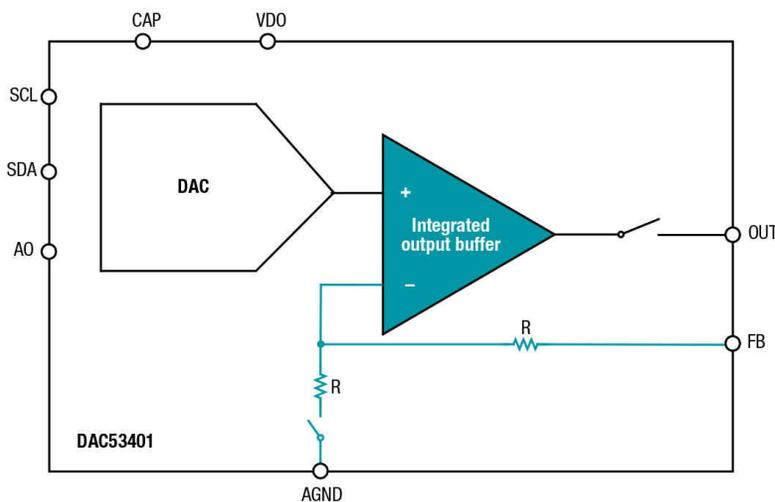

Figure 5. DAC53401 Offers Access to the Feedback Path of Its Internal Amplifier
As shown in Figure 5, the separate feedback pin (FB) enables you to use the DAC53401 as an analog comparator with a programmable threshold voltage.